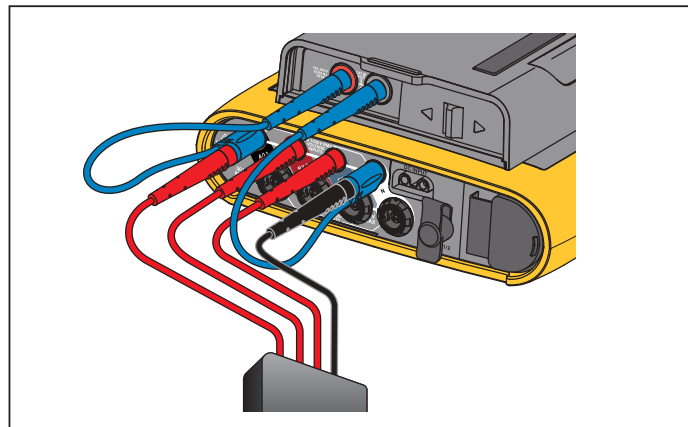

Figure 8. Measurement with Neutral Voltage and Instrument Power Supply
- Connect N with the second input of the power supply. See Figure 8.